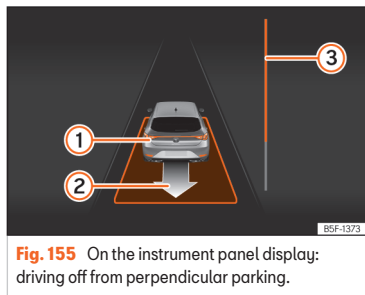

Fig. 155 On the instrument panel display: driving off from perpendicular parking.
- Reverse until the continuous ParkPilot signal sounds; **OR:** reverse until the instrument panel display shows the forward indication. The progress bar **»» Fig. 155 ③** indicates the distance to cover.